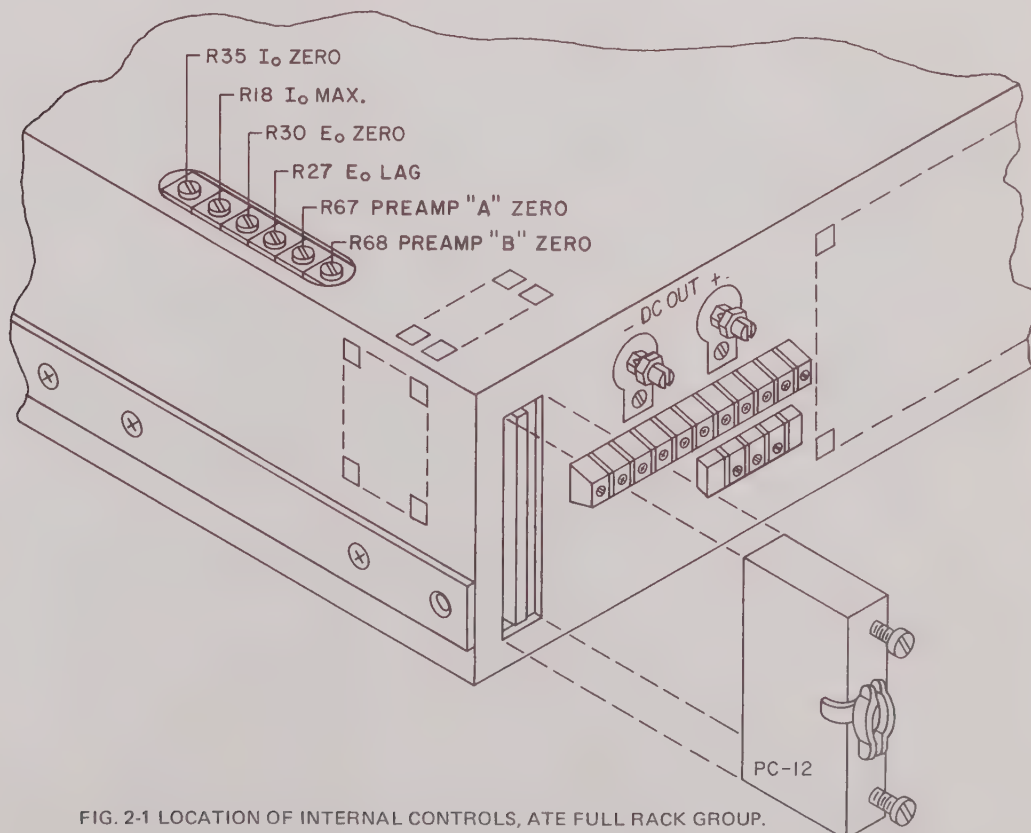

FIG. 2-1 LOCATION OF INTERNAL CONTROLS, ATE FULL RACK GROUP.
- INTERNAL CONTROLS: Refer to FIG. 2-1 and Table 2-1.
- 2-19 LAG NETWORK ADJUSTMENT. The ATE power supply operating in the "fast" mode, is dynamically stabilized by means of an internal lag network (E_O LAG, R27, see FIG. 2-1 for location). This control should be adjusted, for each application, by monitoring the load with an oscilloscope and turning the LAG control for best output response and maximum dynamic stability under all operating conditions.